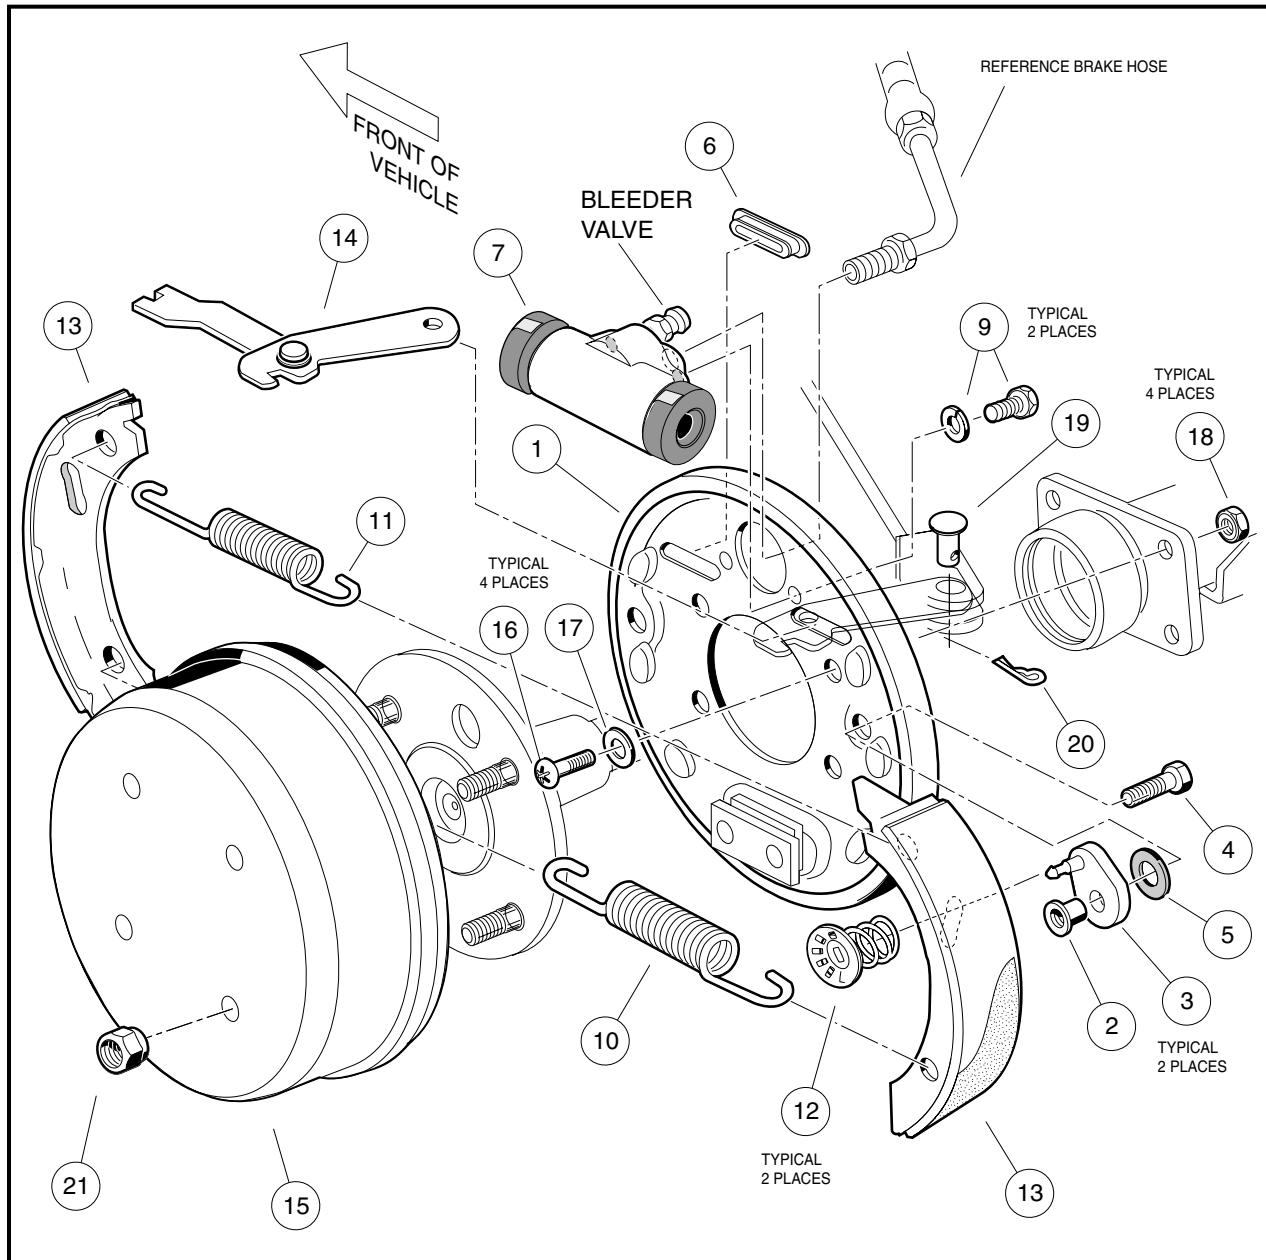

Figure 6b-21 Rear Hydraulic Brake Cluster Assembly
4. To avoid spilling brake fluid, lift the hose above the brake cluster assembly and place a plastic bag over the hose fitting to keep dirt and debris from entering the hydraulic brake system (**Figure 6b-20, Page 6b-22**).
5. Remove two bolts (9) and lock washers that secure the wheel cylinder to the brake cluster back plate (1), and remove the wheel cylinder (7) (**Figure 6b-21, Page 6b-25**).
1. Install wheel cylinder (7) with two bolts (9) and lock washers to the brake cluster assembly back plate (1) (**Figure 6b-21, Page 6b-25**). Tighten each bolt to 120 in-lb (13 N·m). **See following NOTE.**
2. Using a 3/8-inch flare nut wrench, attach the brake hose fitting to the brake cluster wheel cylinder (**Figure 6b-19, Page 6b-22**).
4. With the back plate removed, grip adjuster arm (3) with a pair of locking pliers. Use a Torx #T-27 driver or 7/16-inch socket to remove the bolt (4), flat washer (2), and bellville washer (5) from the brake cluster back plate (1) (**Figure 6b-3, Page 6b-4**). Remove remaining adjuster assembly and discard all adjuster components (3, 4, 2, and 5) for both assemblies.
1. Install bolt (4) through flat washer (2) and through the brake cluster back plate (1) (**Figure 6b-3, Page 6b-4**).